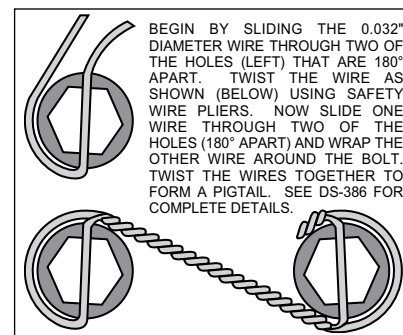
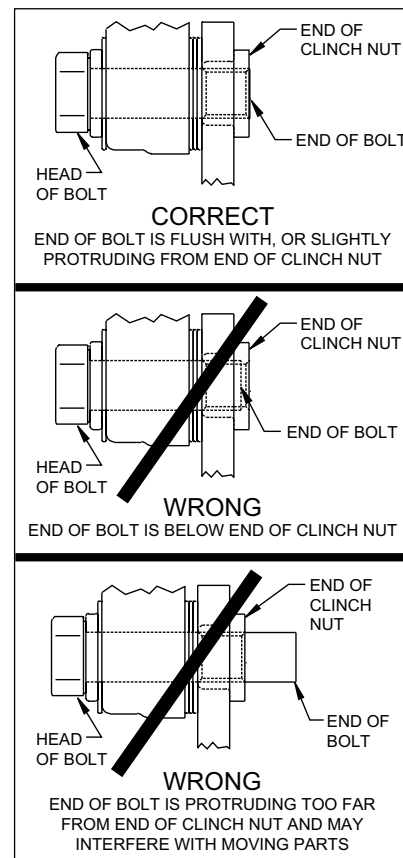

Figure 3. Safety Wire Diagram
Figure 4.
**CAUTION:** All mounting bolts must fully engage clinch nuts. Be sure to check that all bolts are either flush or protruding through flanged side of clinch nut after shimming, Figure 4.
- With the slot pointing upward and the mounting ears pointing towards the rear of the vehicle, install the caliper mounting bracket (1) to the housing flange using the stock Original Equipment Manufacturer (OEM) bolts and nuts. Stock OEM hex nuts that retain the bracket (1) should be on the wheel side of the bracket. Apply red *Loctite*® 271 to the stock OEM bolt threads and torque to OEM specifications.
**NOTE:** Some brackets act as the bearing retainers, while others help locate the bearing in the axle housing flange. If the stock bearing plates are still on the axle, the caliper mounting brackets (1) should be located between the axle housing flange and the bearing retainer plate. Make sure the heads of the caliper mounting bracket insert nuts are FACING OUTWARD TOWARDS THE WHEEL.
- The rotor (3) has two sides. A flat side and an inset side. Bolt hat (2) to flat side of rotor (3) using bolts (5). Apply red *Loctite*® 271 to the bolt threads and torque to 25 ft-lb using a criss-cross pattern. Safety wire bolts using standard 0.032 inch diameter stainless steel safety wire as shown in Figure 3. Refer to Wilwood's data sheet DS-386 (available at [www.wilwood.com/Pdf/DataSheets/ds386.pdf](http://www.wilwood.com/Pdf/DataSheets/ds386.pdf)) for complete safety wire installation instructions.
- Align the correct hole pattern in the hat (2) with the stud pattern on the axle flange. **NOTE:** Some OEM and after market axles come with stud sizes larger than 0.50" diameter. Verify stud size and have a qualified machine shop drill the hats to the correct size. Slide the hat/rotor assembly (2 and 3) over the wheel studs and against the axle flange face.
- NOTE:** Please reference the caution statement at the beginning of the assembly instructions. Mount the caliper (6) over the rotor (3) and onto the caliper mounting bracket (1) using washers (7) and mounting bolts (8). View the rotor through the top opening of the caliper. The rotor should be aligned in the center of the caliper. If not, adjust the caliper by using 0.032 inch shims (9) by placing them between the caliper mounting bracket (1) and the caliper (6). Add as many shim washers (9) as necessary to achieve the correct alignment. **NOTE:** The end of the bolt must be flush with or slightly protruding from the head of the clinch nut. See Figure 4. Place spare shims (9) between washer and caliper mounting ear to achieve the proper mounting fastener configuration. Always use the same amount of shims on both the top and bottom caliper mounting bolts (8). Apply red *Loctite*® 271 to the mounting bolt threads (8), torque to 40 ft-lb. Caliper mount bolts may be safety wired for additional security.
- Position the Wilwood disc brake pads (10) into the caliper (6) and fasten with cotter pin (4). Steel backing plate side of brake pad should face the caliper pistons.